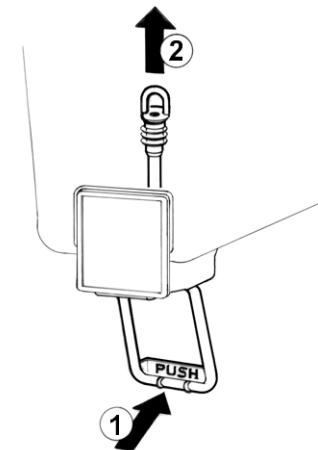

figure 3
- 5** **Pinch tube faucet:** push the dispensing handle (1) and take the pinch tube off from its seat (2) (see figure 3).